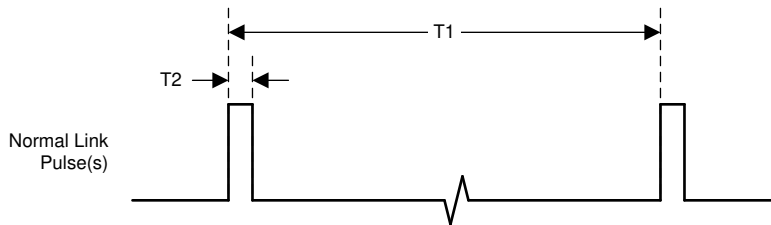

图 7-13. Normal Link Pulse(s) Timing
- (1) Ensured by production test, characterization or design.
- (2) See 图 7-13.